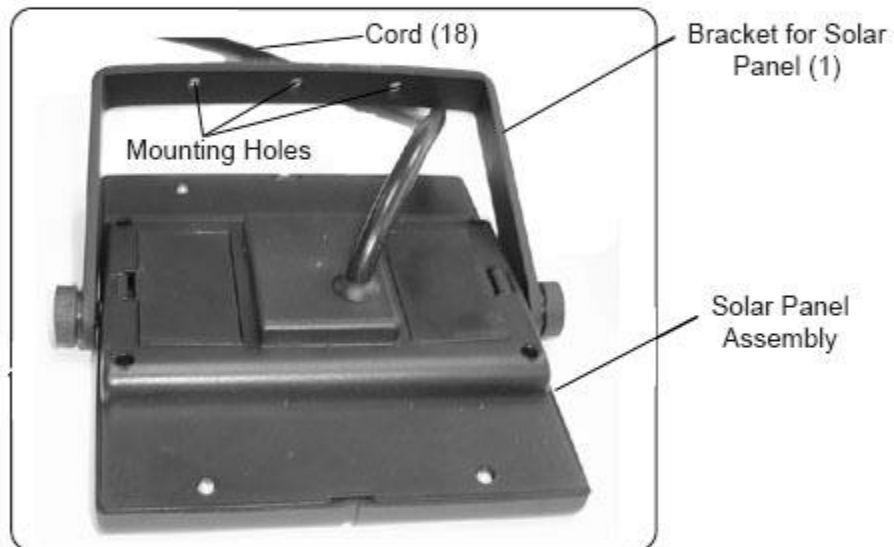

Figure 1
2. Decide where you want to place the Solar Shed Light and Solar Panel. The Solar Panel assembly must be set in a location that receives full, direct sunlight a minimum of six hours a day. The Solar Shed Light and Solar Panel assembly must be installed within 8' of each other to allow for the Cord (18) connection.
4. The Shed Light can be mounted with Screws (22). First position the Solar Panel assembly in the desired spot in the out-of-doors where it can charge with sunlight. Place the Solar Panel no more than 8' from where the Shed Light will be used. Using the Bracket (1) on the Solar Panel as a template, mark the location on the wall where the Screws (22) and Anchors (21) will be used for mounting. See Figure 1.
5. Use an awl or drill to set the Screw path. Beware of any electrical lines in the drilling pathway. Do not insert the Screws (22) all the way. The head of the Screw (22) must stick out a small amount from the wall to allow clearance to mount the Bracket (handle) of the Solar Panel assembly onto the Screws. Choose your location to mount the Solar Light. In the same manor use the Bracket for Lamp (14) as your template and the same hardware. See Figure 1.
6. Mount the Solar Panel to the Shed using the 5/16" Screws (22). When using Anchors (21) drill holes just a bit bigger than the Anchors (5/16"). Tap Anchors in with a hammer. Note: If attaching to the shed roof, you may need to use roofing cement to maintain roof waterproofing. The Solar Panel must be set in a location that receives full, direct sunlight a minimum of six hours a day. Turn on the Shed Light On/Off Switch (12) on the back of the Light Housing (8) and tilt the Panel to catch the sun's rays. See Figures 1 & 2.
7. After the initial charge is set, check to see that the Shed Light is on by viewing the light at night or in a dark location. If the Light (10) is not lit, check the position of the "ON" Switch (12). The Shed Light can be turned "ON" by manually pressing the Switch (12) on the back of the Light Housing (8).
**Note:** During the day, the Solar Panel (2) converts sunlight into electricity, recharging the battery. The amount of light the Solar Panel receives depends on placement of the Solar Light Panel assembly, geographic location and weather. If the weather is cloudy and the Panel did not receive a full charge, the Solar Panel assembly may not achieve the full operating time. It will catch up on its own after two to three days of full sun.